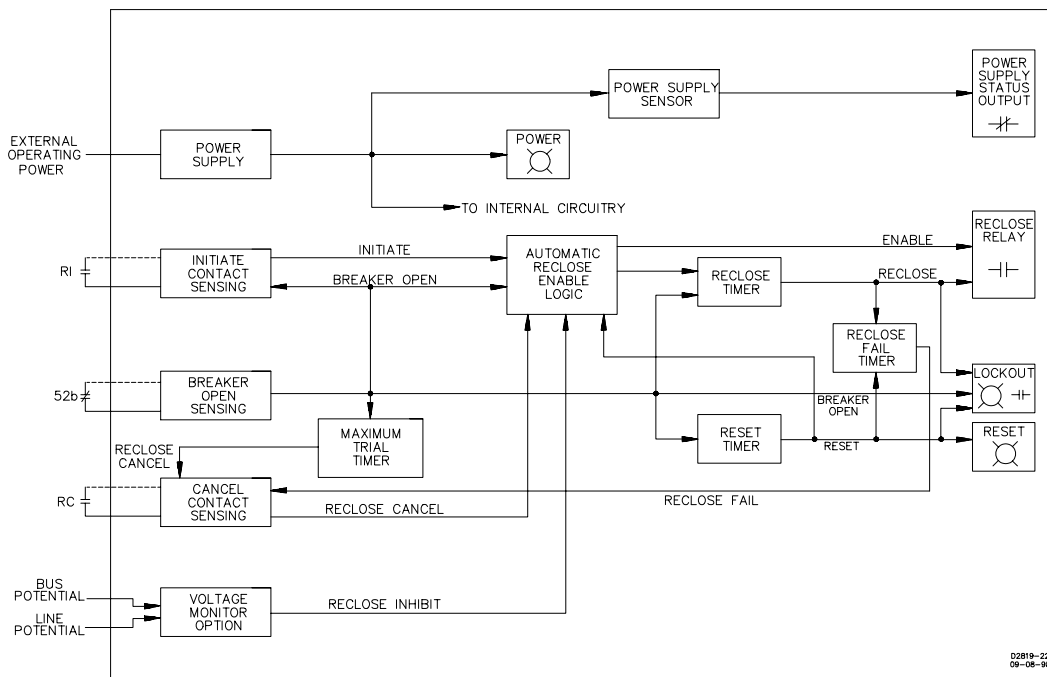

Figure 2-1. Functional Block Diagram
The reclosing relay, functionally shown in Figure 2-1, provides automatic reclosure of circuit breakers that have been tripped by a protective relay. The relay uses a Form B auxiliary contact of the controlled circuit breaker to detect the position of the breaker. A reclose initiate (RI) signal must be received from the protective system prior to the closure of the breaker auxiliary contact. Closure of this contact indicates that automatic reclosing is to be permitted.